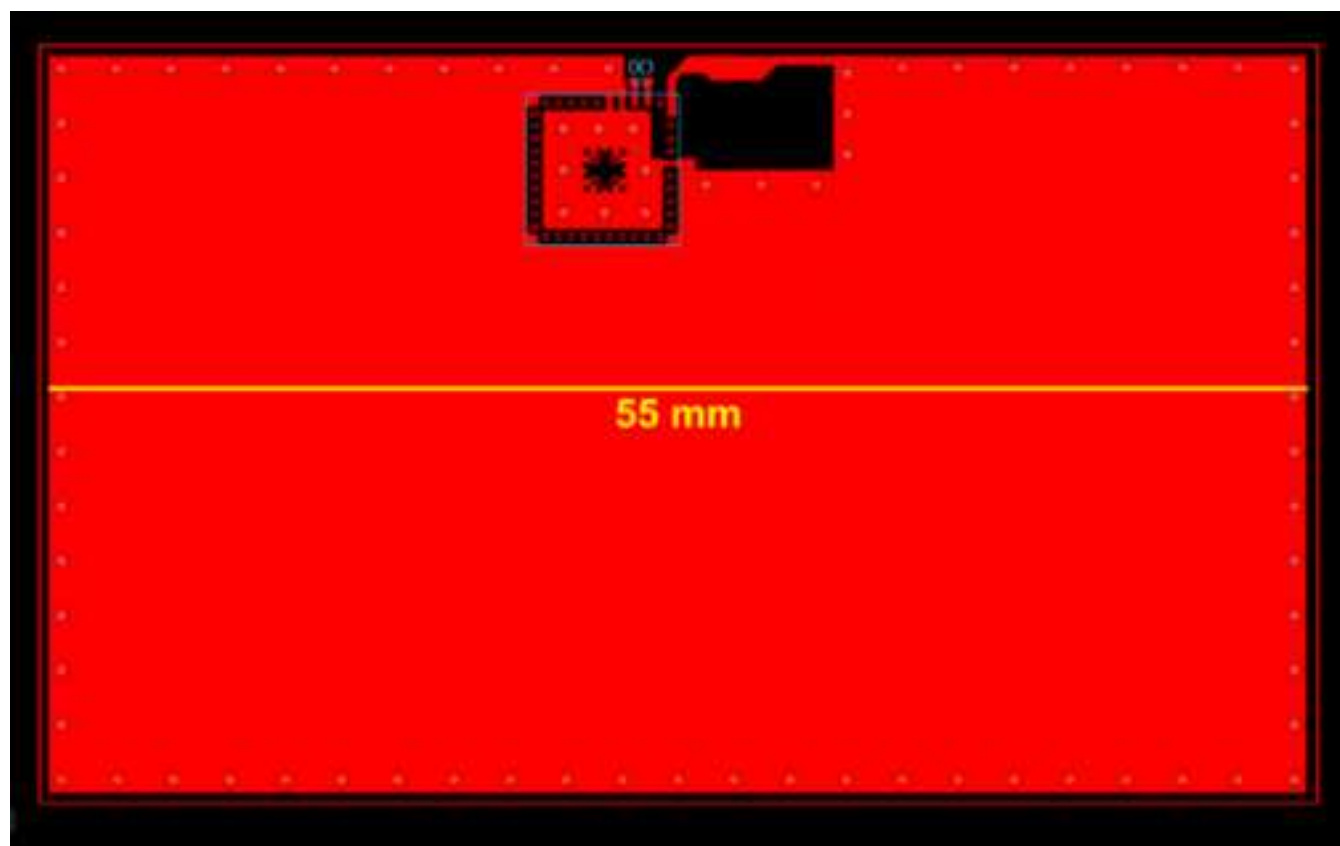

Figure 12: Illustration of Recommended Board Width
- For optimal performance, a GND plane width of 55 mm for Lyra S22A is recommended as seen on Figure 12.